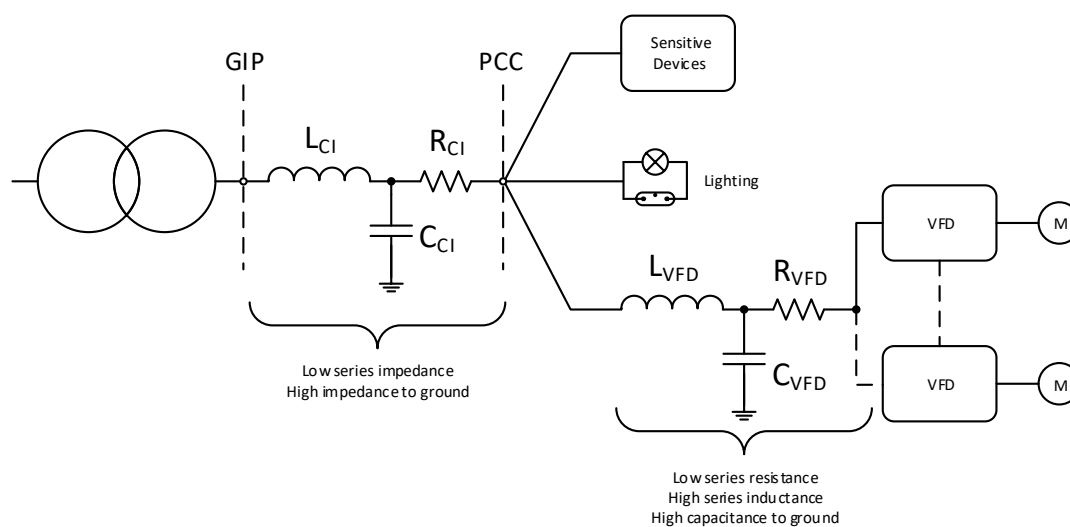

Figure 3 Cause of voltage fluctuations and flicker
When running at constant load the drive does not generate voltage fluctuations or flicker. However, variations in the load torque in the frequency range 0.5 Hz to 30 Hz can cause lighting flicker if the supply cables to the drive are shared with lighting circuits. Likewise, interference with other sensitive equipment can occur where cabling is shared between the drive supply and other sensitive circuits. This is shown in Figure 3.
- Reduce the impedance between GIP (Grid Integration Point) and PCC (Point of Common Coupling) as shown in Figure 3